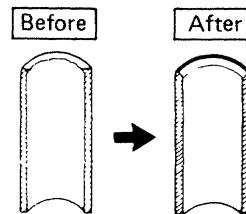

Fig. 24
- Remove burrs at the end of the copper tube with a tube reamer or a file. This process is important and should be done carefully to make a good flare. Fig. 24